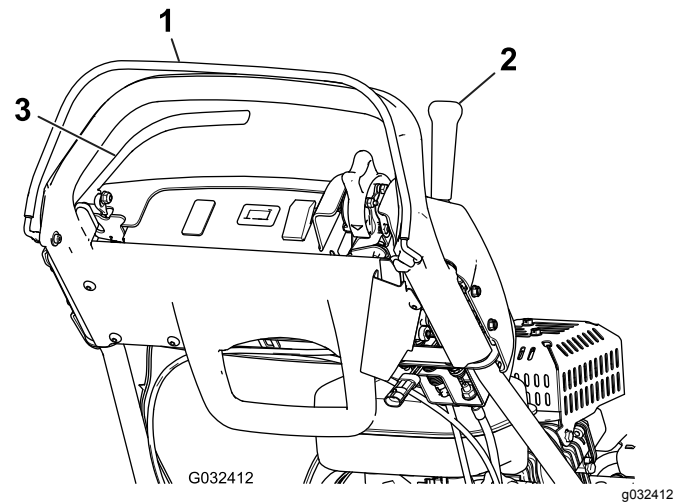

Figure 31
3. With the OPC released, attempt to engage the traction lever (Figure 31). The traction lever should not engage. If the traction lever engages, the interlock system needs service. Correct the problem before operating; refer to Servicing the Traction Interlock Switch (page 30).
4. With the OPC pressed and the traction lever engaged, release the OPC (Figure 31). The traction lever should disengage. If the traction lever does not disengage, the interlock system needs service. Correct the problem before operating; refer to Servicing the Traction Interlock Switch (page 30).
5. With the OPC pressed and the shift lever moved to the left, engage the traction and reel drive, and release the OPC (Figure 31). The traction lever should disengage. If the traction lever does not disengage, the interlock system needs service. Correct the problem before operating; refer to Servicing the Traction Interlock Switch (page 30) or Adjusting the Reel Control (page 33).
6. With the OPC pressed and the shift lever moved to the left to engage the traction and reel drive, move the shift lever to the right to disengage the reel drive (Figure 31). The reel drive should disengage. If the reel drive does not disengage, the interlock system needs service. Correct the problem before operating; refer to Adjusting the Reel Control (page 33) .
2. With the OPC pressed, the traction lever engaged, and the engine controls in the starting position (Figure 31). Attempt to start the engine. The engine should not start. If the engine starts,
2. With the traction lever disengaged, the service brake engaged, and the engine controls in the starting position (Figure 31), attempt to start the engine. The engine should start. If the engine does not start, the interlock switch needs service. Correct the problem before operating the machine; refer to (page).
3. With the engine running, engage the service brake (not the parking brake), press the OPC, and engage the traction lever (Figure 31). The engine should labor to overcome the brake but should not shut off. If the engine shuts off immediately, the interlock switch needs service. Correct the problem before operating the machine; refer to (page).
4. With the engine running, engage the parking-brake latch, press the OPC, and engage the traction lever (Figure 31). The engine should shut off. If the engine does not shut off, the interlock switch needs service. Correct the problem before operating; refer to (page).